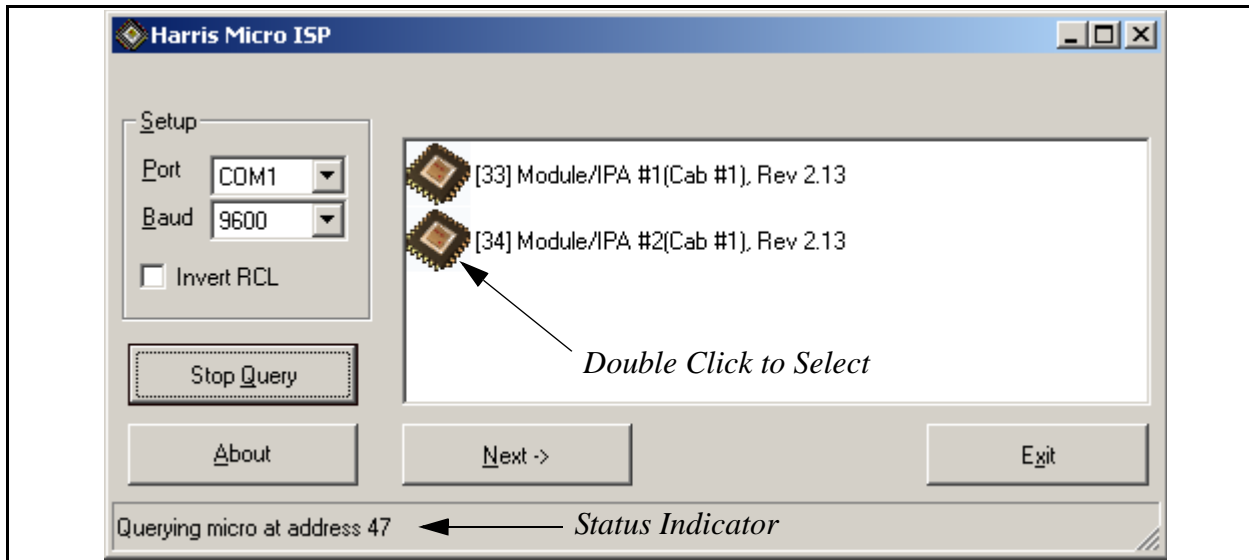

Figure 6-10 Response to “Query Micros”
- STEP 6** Press Query Micros; wait for system to recognize the 1 or 2 PA Module micros as shown in Figure 6-10. The micros are at address 33 and 34 so it will take a minute for them to show up. Note the status indicator at the bottom left corner of the window. If it does not find the micros, press Stop Query, change the COM port and press Query Micros again.